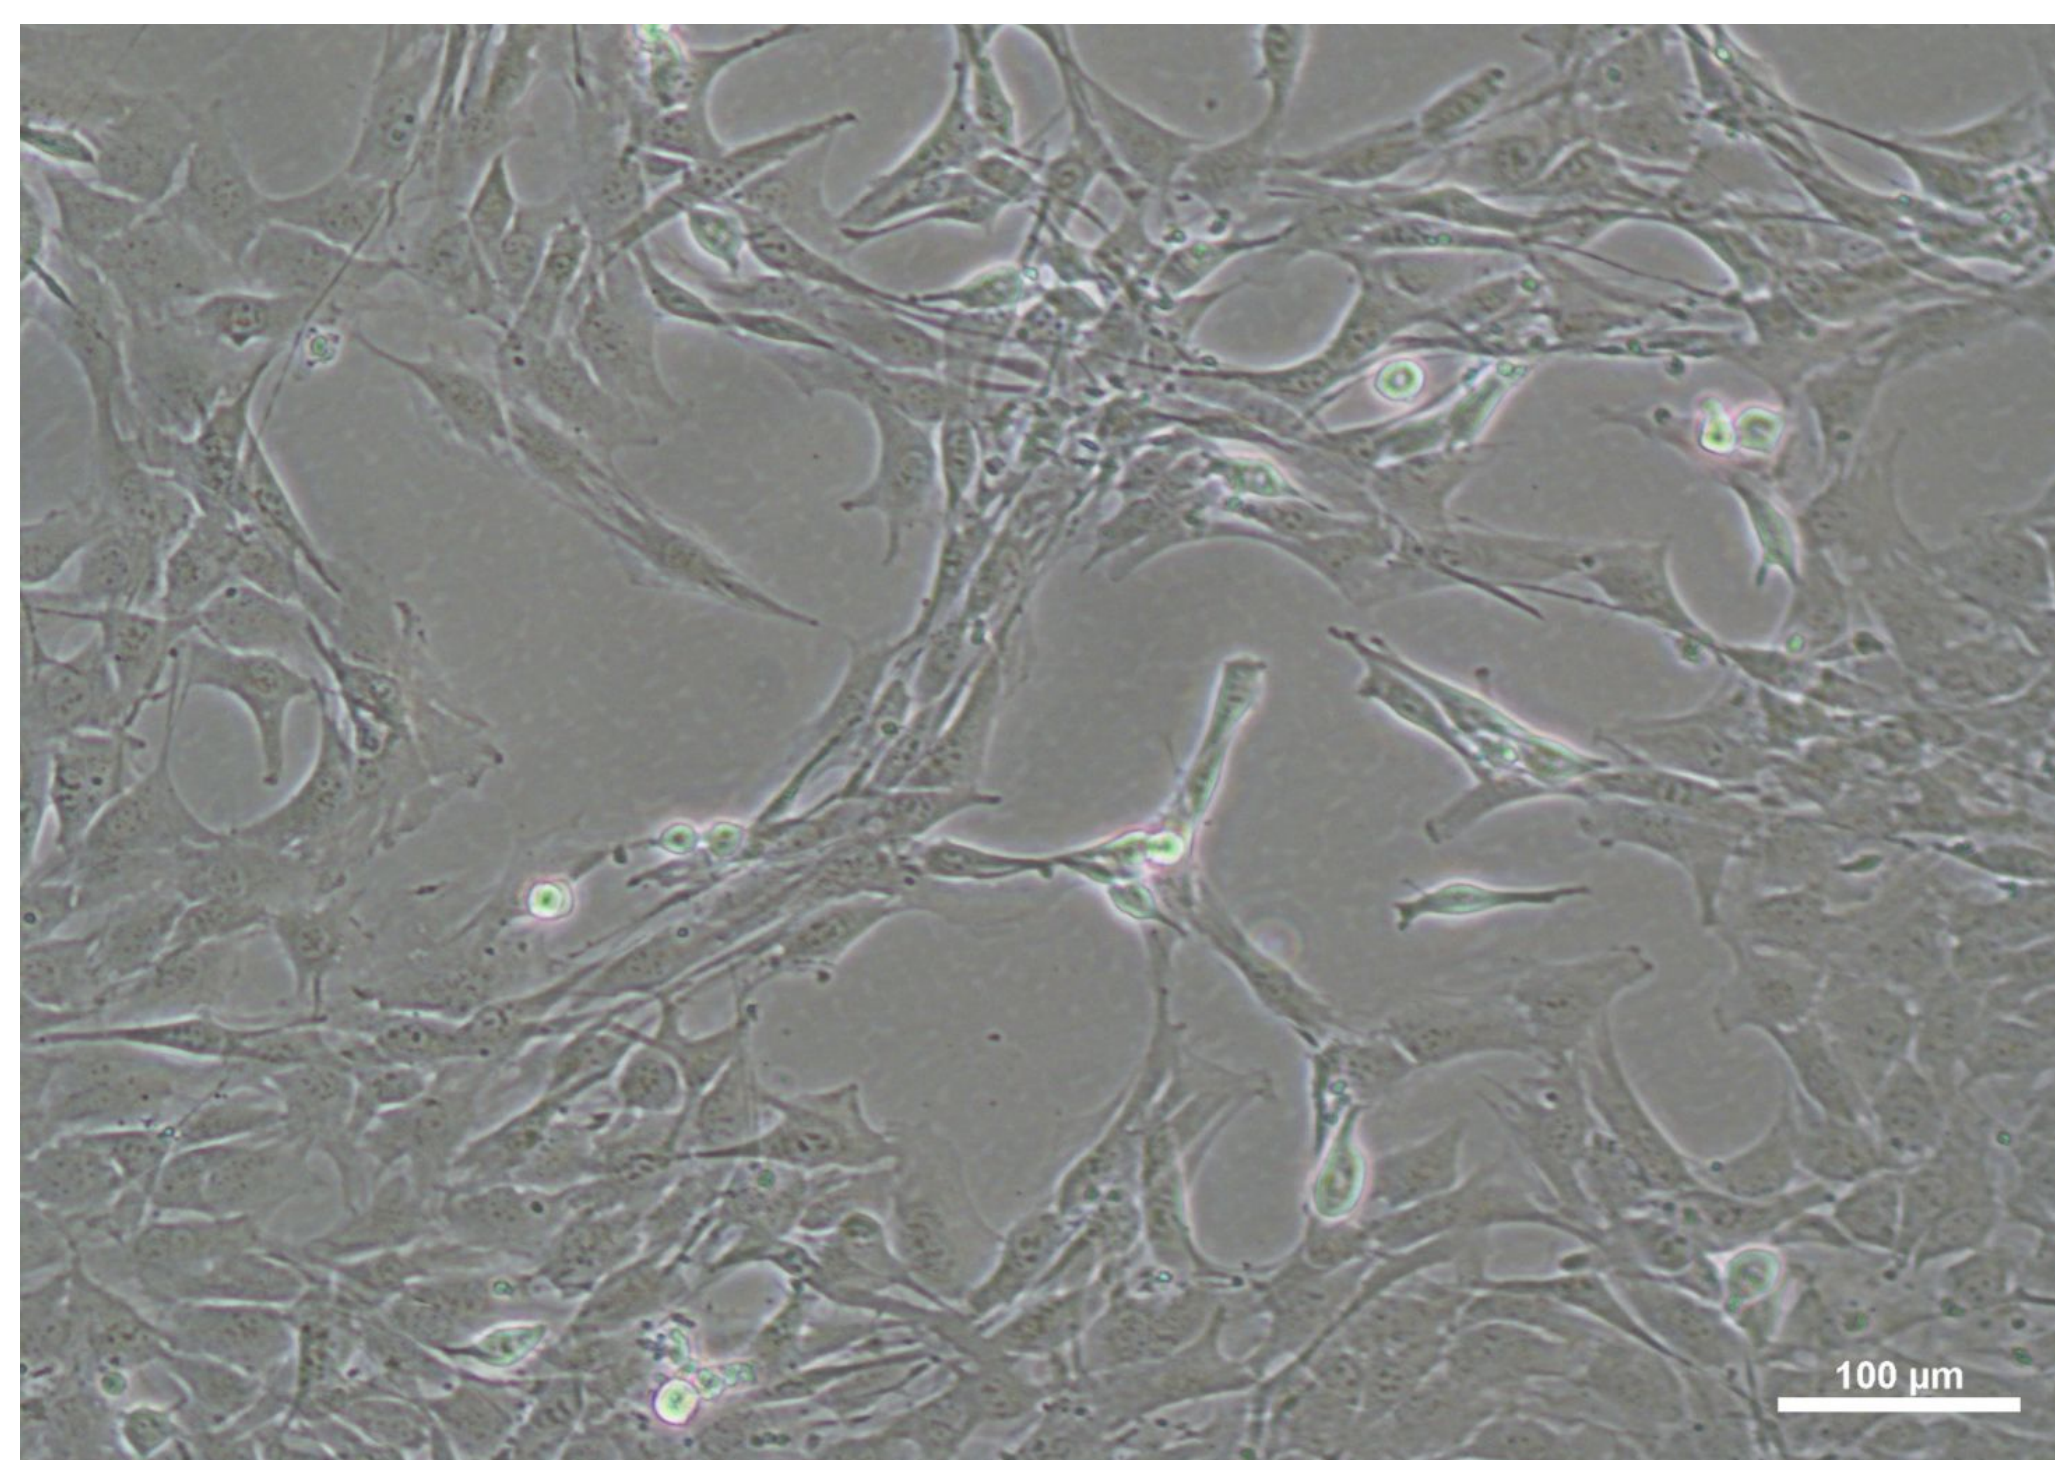

Figure 1 - C2C12 culture growing as a monolayer
- Are typically grown in monolayer or suspended culture (Fig 1)